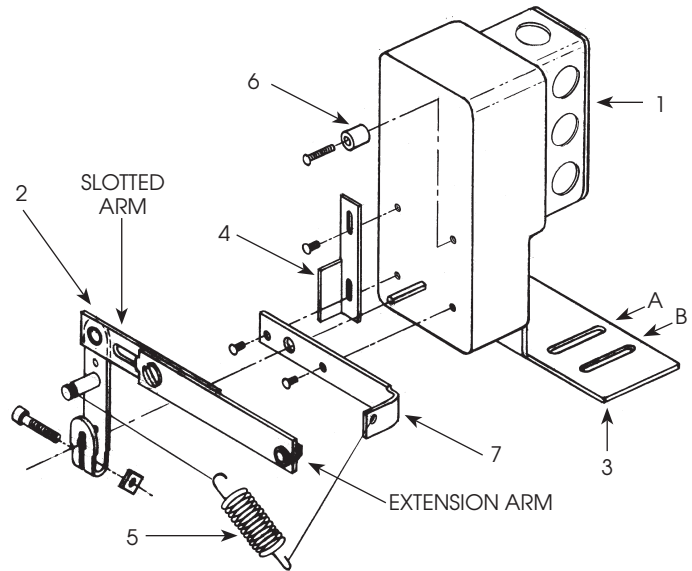

Figure 2- Attaching Motor Plate
- 1 Fasten motor plate loosely to shutter frame. Mounting hole(s) located on frame bottom (except for FGS-SP which is located at frame top – see separate installation instruction sheet). For model EAS-SP and EASR-SP, use "B" hole only. Refer to figure 2.
- 4 Tighten adjustable extension arm that was loosened in step (2) above.